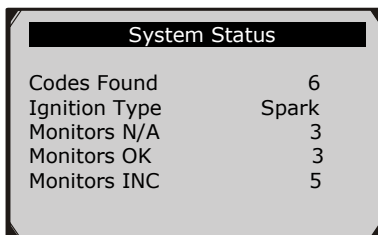
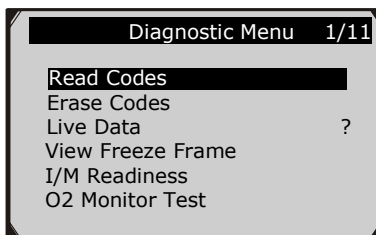

Figure 5.2
Figure 5.4
- 9) View a summary of system status (MIL status, DTC counts, Monitor status) on screen. (Figure 5.2) Wait a few seconds or press any key for the **Diagnostic Menu** (Figure 5.4).
- 1) Use the **UP/DOWN** scroll buttons to select **Erase Codes** from **Diagnostics Menu** and press the **OK** button. (Figure 5.4)
- 1) To view live data, use the **UP/DOWN** scroll button to select **Live Data** from **Diagnostic Menu** and press the **OK** button. (Figure 5.4)